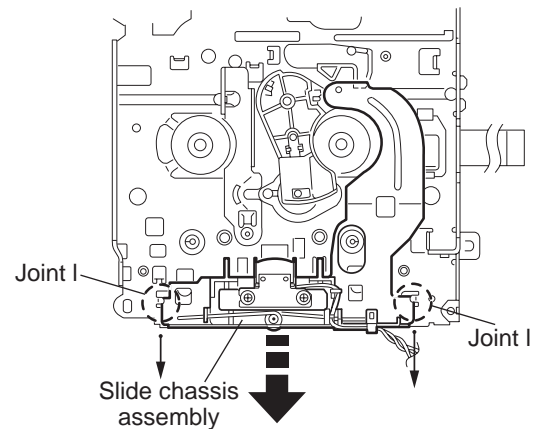

Fig.14
2.2.7 Removing the slide chassis assembly (See Fig.14 and 15)